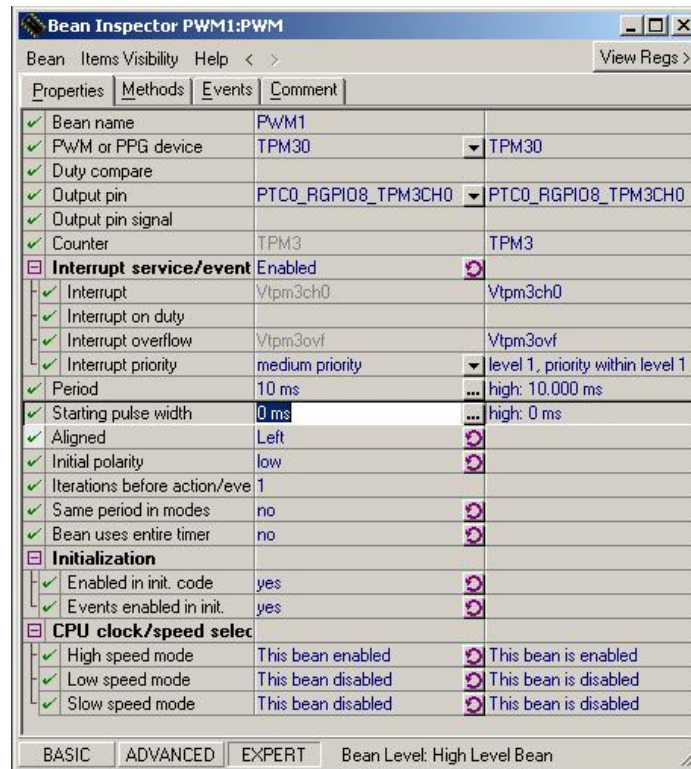

Figure 41. Bean Inspector Window - PWM Configuration on PWM Lab Project
12. In the Bean Inspector window configure the following (Figure 41):